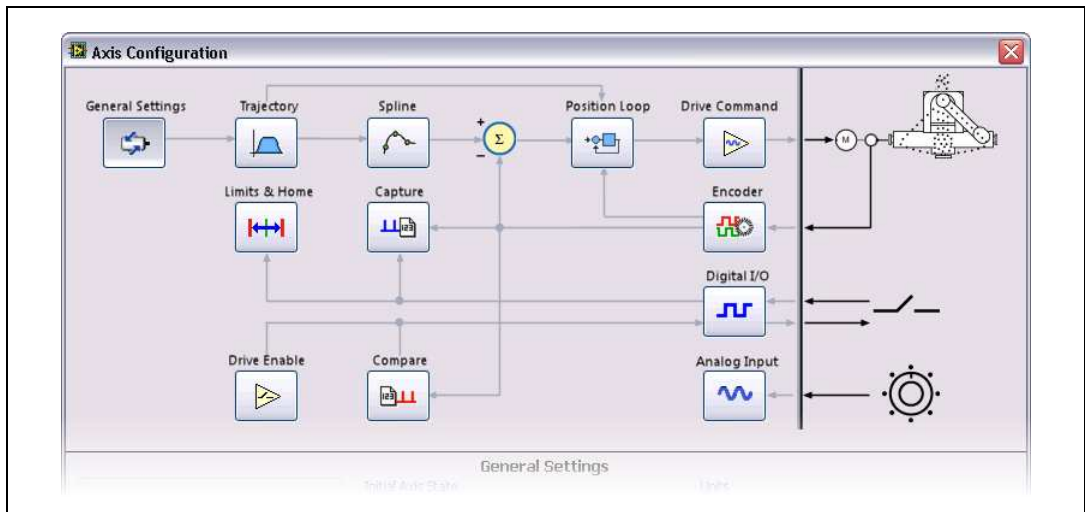

Figure 6. Axis Configuration Dialog Box for NI SoftMotion SolidWorks Axes
1. Right-click the axis in the **Project Explorer** window and select **Properties** from the shortcut menu to open the **Axis Configuration** dialog box. Figure 6 shows the parts of the **Axis Configuration** dialog box for SolidWorks axes.